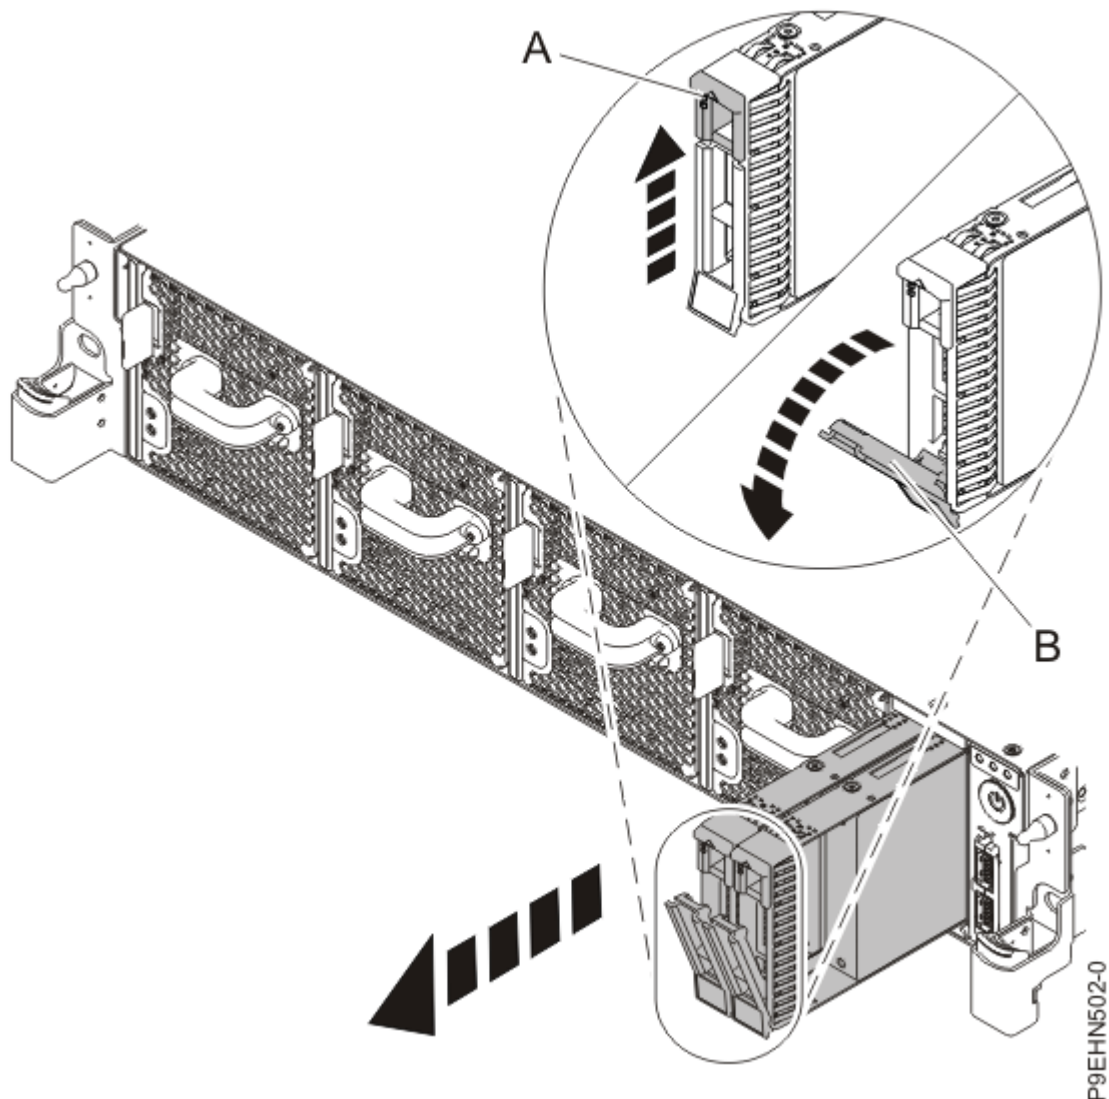

Figure 5. Disk drive lock detail
4. Unlock the drive bay handle **(B)** by pushing the handle release **(A)** up. The handle **(B)** snaps out towards you. If the handle does not snap out all the way, the drive does not slide out of the system. See Figure 5 on page 8.